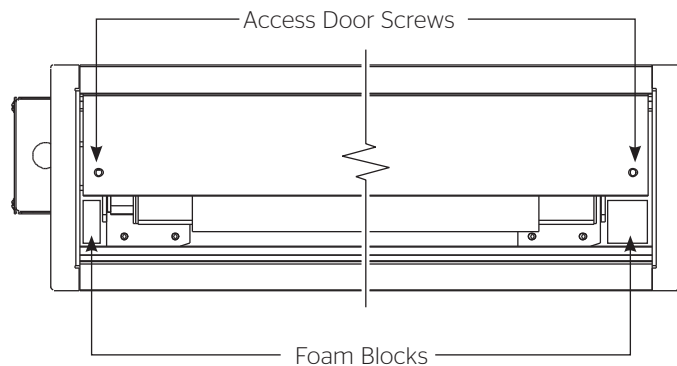

Figure 1
5. For shipping purposes, foam is also inserted between the roller brackets and endcaps (Figure 1). Remove these foam blocks from the ends.
1. Remove the access door. First, remove the 2 screws from the ends. Be sure to support the door during this step to avoid injury. Then lift the door slightly and pull away from the edge of the case (Figure 1).